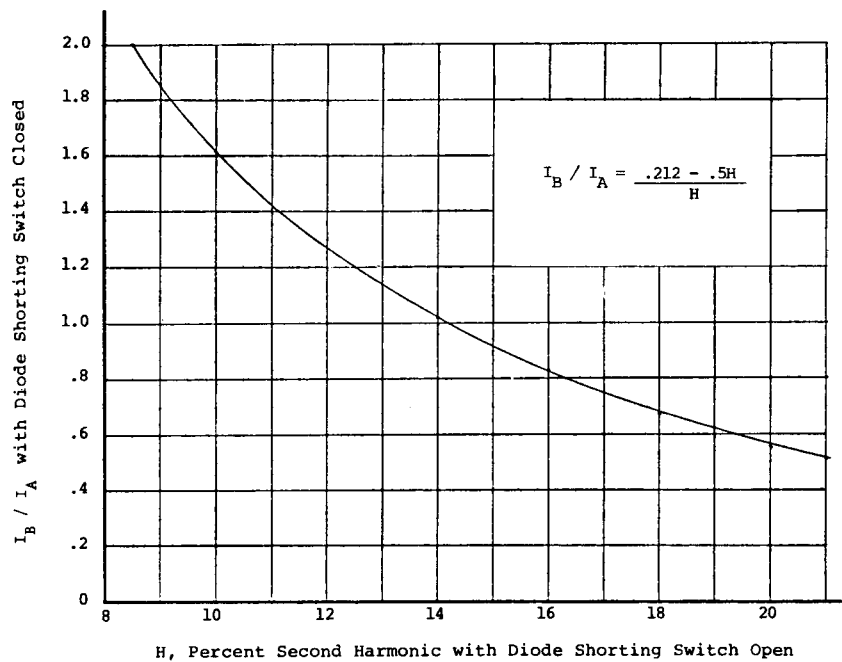

Figure 5b: Percent 2nd Harmonic Content as a Function of I_B/I_A
3. Raise the current in branch B (increases the 60Hz content). The 50R should return to the non-restraint condition when the percentage of 2nd harmonic falls below the set point. The value may be read from the curve in Fig 5b. Note that since the branch A current was originally set to 1 ampere, the vertical scale may be read as the current in branch B.